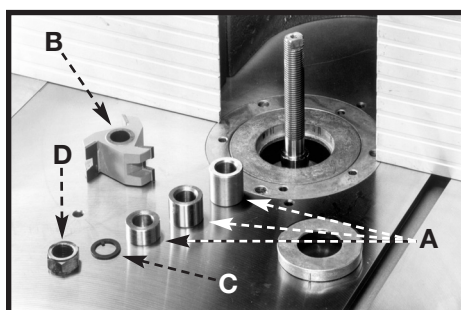

Fig. 15
1. Three different-sized collars (A) Fig. 15 are supplied with the machine. These collars allow the cutter and/or the 4-1/2" diameter spindle guard to be positioned at various locations on the spindle.
3. Determine which, if any, collars are needed. Then attach the cutter (B) Fig. 15, keyed washer (C), and spindle nut (D) Fig. 15). Place one wrench on the flats (A) Fig. 16 on top of the spindle and one wrench on the spindle nut (D). Tighten as shown in Fig. 17.